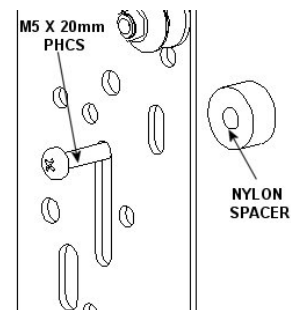

Figure 41. Spacer Installation for Group 15
3. Place the Nylon spacers over the four mounting holes on your display (see Figure 41).